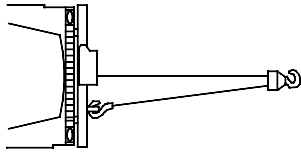

Fig. 7
3. Double line with a pulley block (see Fig. 7) to reduce the load on the winch, wire rope and battery. Double lining will also reduce winch line speed. Be sure all equipment used meets the winch's maximum line pull rating. When double-lining, pulley blocks should be rated to a minimum of two times the winch's line pull rating.